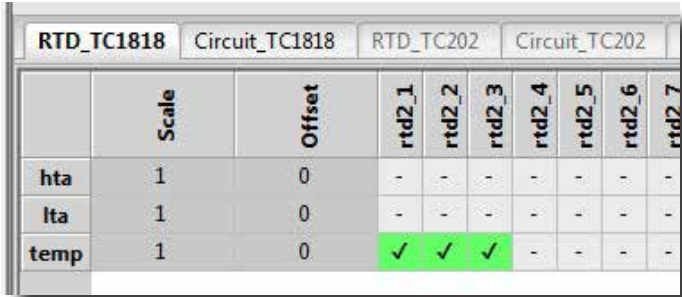

Figure 17: Trend Plotter - Select Items
2. Select plot item(s) from the enabled tabs by clicking on the grid fields (Figure 17).
7. Use the “Clear Selection” button to deselect all selected items (Figure 17).